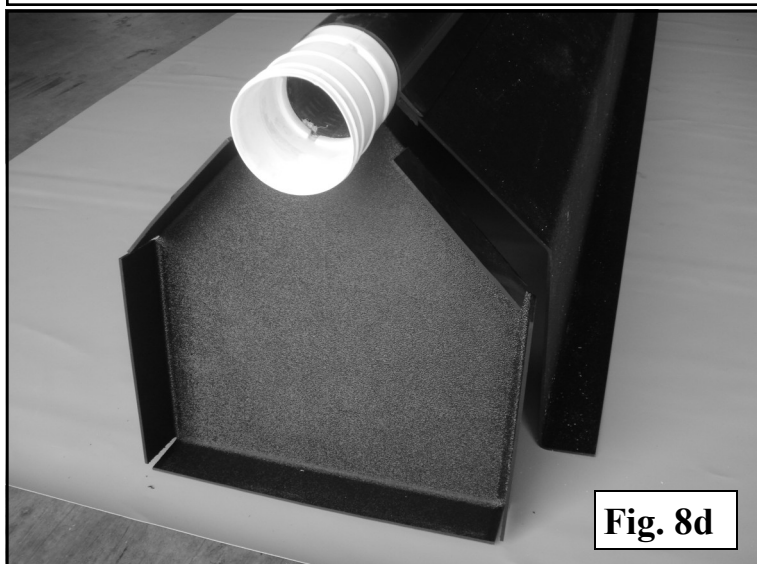

Fig. 8d
1. The bell end of the drain pipe should extend beyond the end panel on the side where you will achieve positive drainage. As shown in Fig. 8d.